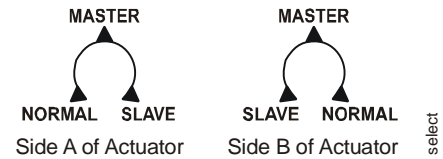

Figure 14: Tandem Selector Switch
- Only one of the actuators can be configured as the master. Set the selector switch to the master position (Figure 14).
Each slave actuator must have its tandem selector switch (Figure 14) set on the slave setting. Its gray command wire must be connected the master's orange feedback wire.